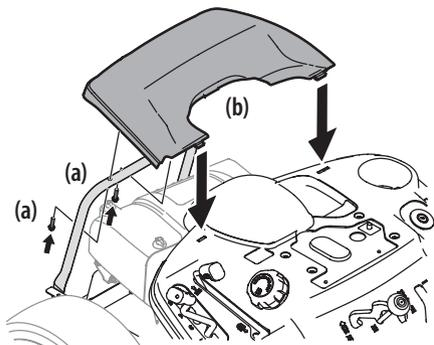

Figure 13
1. Remove the two factory-installed hex screws (a) located on the rear engine cover (b). Retain the hex screws (a) for later instructions. See Figure 13.
2. Install the rear engine cover (b) by positioning it in place as shown in Figure 13. Tip the rear engine cover (b) forward to fit it into the slots provided, then rotate it backwards to align the mounting holes.